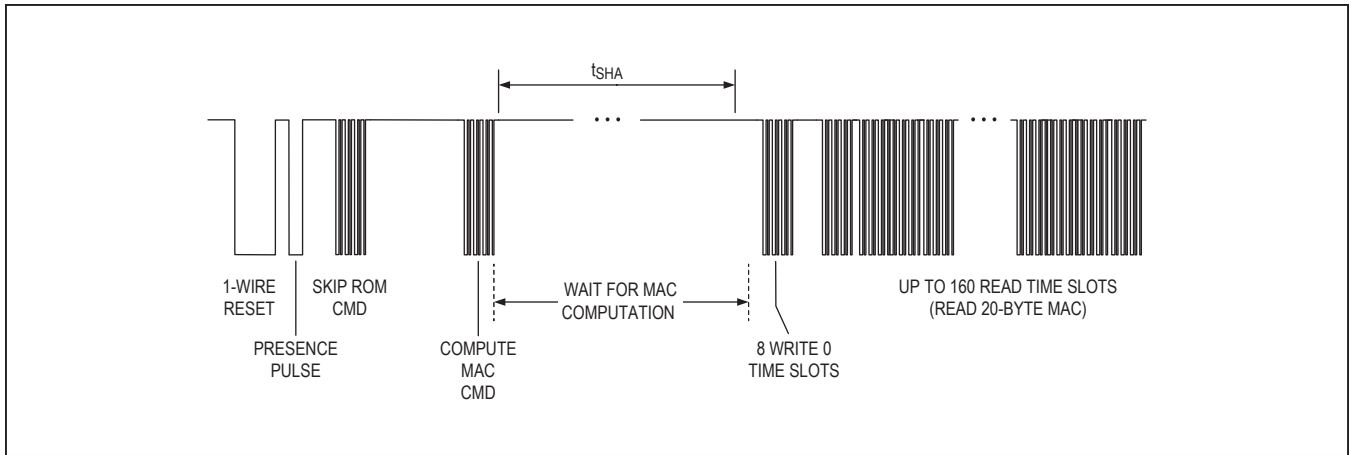

Figure 10. Compute MAC Function Command
command. After the MAC computation is complete, the host must write 8 write-zero time slots and then issue 160 read-time slots to receive the 20-byte MAC. See Figure 10 for command timing.
**Compute MAC With ROM ID [35h].** This command is structured the same as the compute MAC without ROM ID, except that the ROM ID is included in the message block. With the ROM ID unique to each DS2784 included in the MAC computation, the MAC is unique to each token. See White Paper 4: *Glossary of 1-Wire SHA-1 Terms*, for more information. See Figure 10 for command timing.